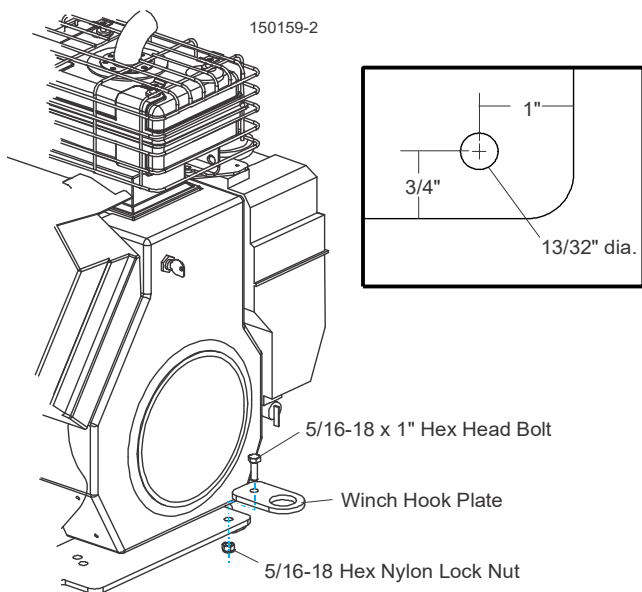

FIG. 1-2
4. Install the winch hook plate to the hole in the motor mount plate on the sawmill. If your sawmill was manufactured before 3/08, you will need to drill a 13/32" diameter hole in the motor mount plate at the dimensions shown. Secure the winch hook plate to the hole using the provided 5/16-18 x 1" hex head bolt and lock nut. See Fig. 1-2.